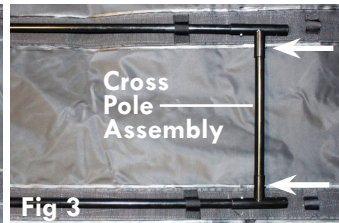

Fig 3
2-Slide the cross pole assembly onto the (2) pole ends of (Fig 3).